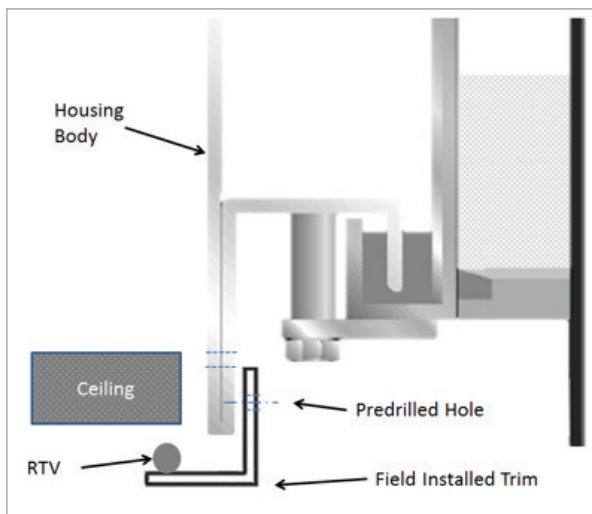
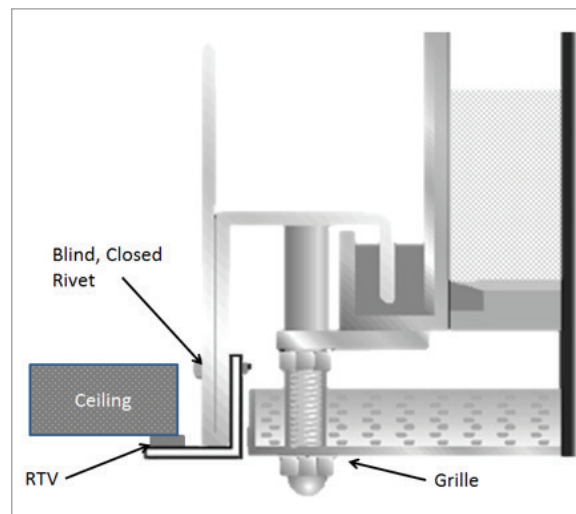

Fig. 10 Field-Installed Trim 3
Fig. 11 Field-Installed Trim 4
5. Reinsert the trim, align the holes, and secure in place using blind, closed rivets (see Fig. 10 & Fig. 11).